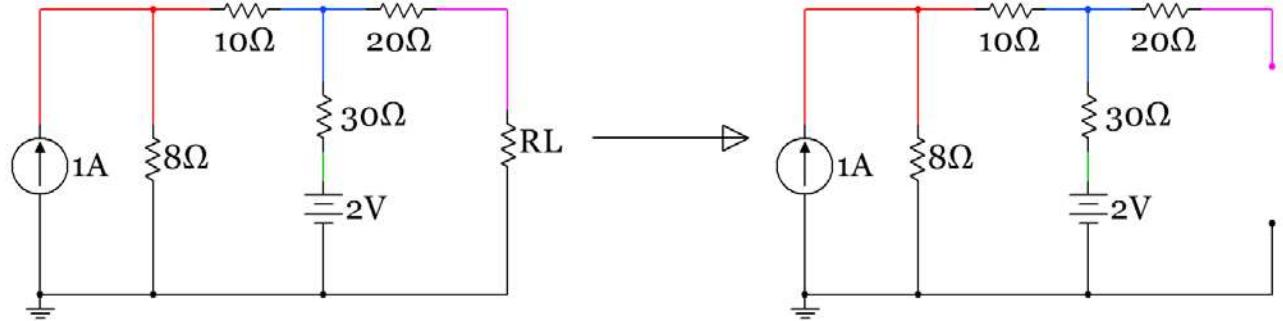
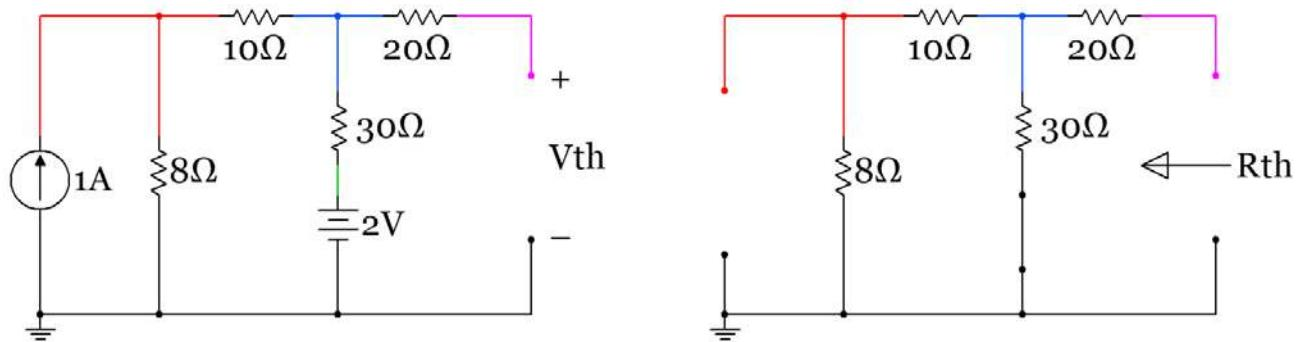
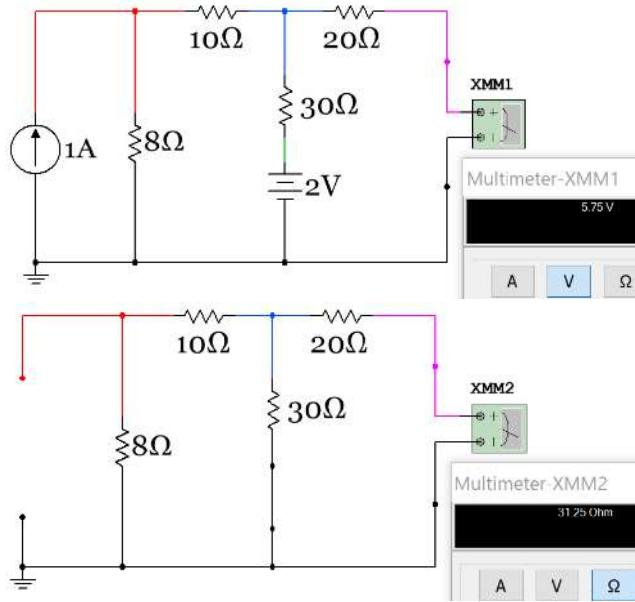

Figure 2.42: First step when asked to find the Thevenin equivalent circuit “external to RL ”
Figure 2.43: Sub-problem 1 (Find V_{th} – left circuit), Sub-problem 2 (Find R_{th} – right circuit)
Figure 2.44: Multisim used to measure V_{th} (5.75 V) and R_{th} (31.25 Ω)
The reason finding the Thevenin equivalent circuit is an important circuit technique is that it allows a complicated circuit with multiple voltage and/or current sources and as many resistors as imaginable to be replaced with one independent source and one resistor (in either Thevenin or Norton form). There is usually not a need to solve for the Norton equivalent circuit because it is just as easy to just find the Thevenin equivalent circuit and then transform it to Norton form using the simple method explained in section 2.1. You can find the Thevenin equivalent circuit “external to” a specific resistor in a circuit by first removing that resistor from the circuit as shown in Figure 2.42.
1. **Find R_{th}** (or R_n) by “zeroing out” all sources (short voltage sources & open current sources) and combine resistors towards the spot in the circuit (i.e. where RL was removed in Figure 2.42) where you are finding the Thevenin equivalent circuit “external to” as shown in Figure 2.43.
2. **Find V_{th}** by calculating the open circuit voltage across the spot in the circuit where you are finding the Thevenin equivalent circuit “external to” as shown in Figure 2.43..
Multisim can be used to determine V_{th} and R_{th} by using Multimeters in Volts and Ohms mode respectively. Figure 2.44 shows how to set up the measurements in Multisim.
Example 2.18) determine the Thevenin equivalent circuit external to RL in Figure 2.43 by calculating V_{th} and R_{th} and compare the results to those measured by Multisim in Figure 2.44.
Sub-problem 1 – Find R_{th} by combining resistors in a similar fashion as done in section 1.2. In Module 1 you were advised to start with combining the resistors as far away from the voltage or current source as possible. For Thevenin equivalent circuit problems you should start with combining resistors as far away from the spot in the circuit where the R_{th} is to be found (as shown by the arrow in Figure 2.43). The following figure shows how R_{th} is calculated with the circuit redrawn each time a resistor is combined. As shown in Module 1 if you become skilled in combining resistors you could write the equation for R_{th} by inspection as: $R_{th} = [(8+10) || 30] + 20 = \underline{31.25 \Omega}$
Sub-problem 2 – Find Vth by solving for the open circuit voltage shown in Figure 2.43. The easiest way to do this is to transform the 1A current source to a voltage source so a one loop circuit is left. Notice that the 20Ω resistor is in series with an open circuit so it has no effect on Vth (No current flowing through it means no voltage drop across it). The 20Ω resistor only has an effect on Rth in this circuit. **The following figure shows the circuit transformed and the 20Ω resistor removed since it has no effect on Vth.**